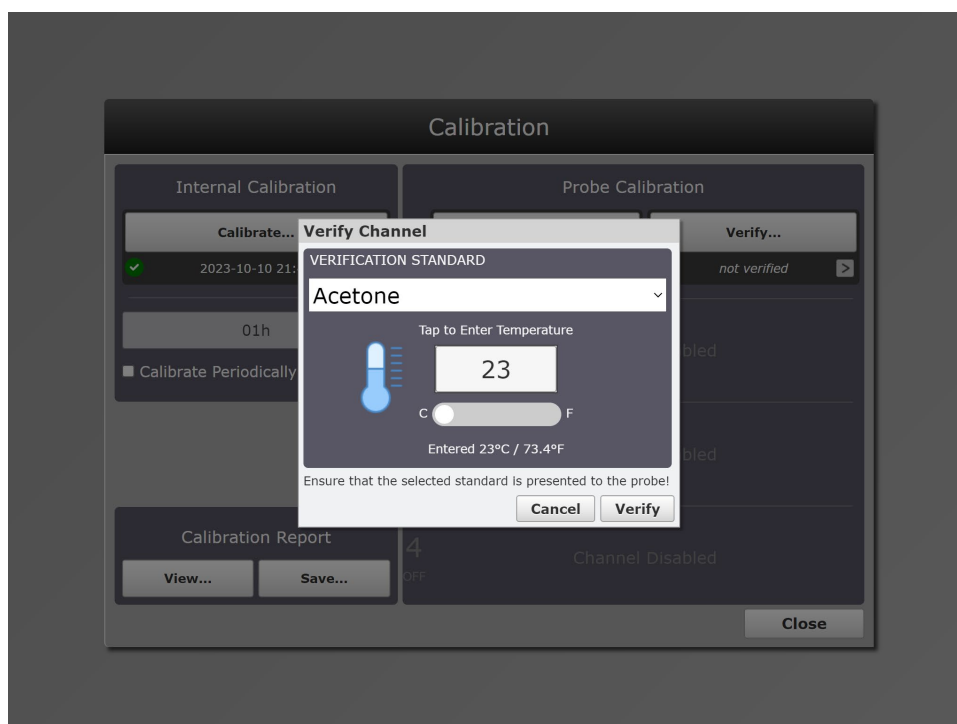

Figure 7. Verify channel
- After running an Intensity Correction, the calibration screen will appear as shown in Figure 7. The **Verify** button is available in the Probe Calibration section of the dialog.